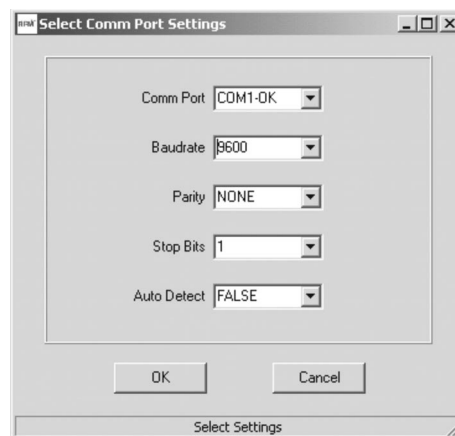

Figure 6
- Click on *Connect* to open the *Select Comm Port Settings* dialog box, as shown in Figure 6. Set the baud rate to 9.6 kb/s. Set the *CommPort* to match the serial port connected to the Base, either the hardware port or the USB virtual serial port. Then click *OK* to activate the serial connection.